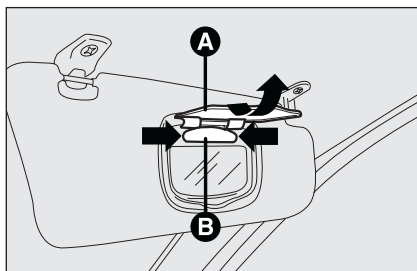

fig. 38
- ☐ open the mirror cover **A-fig. 38**;